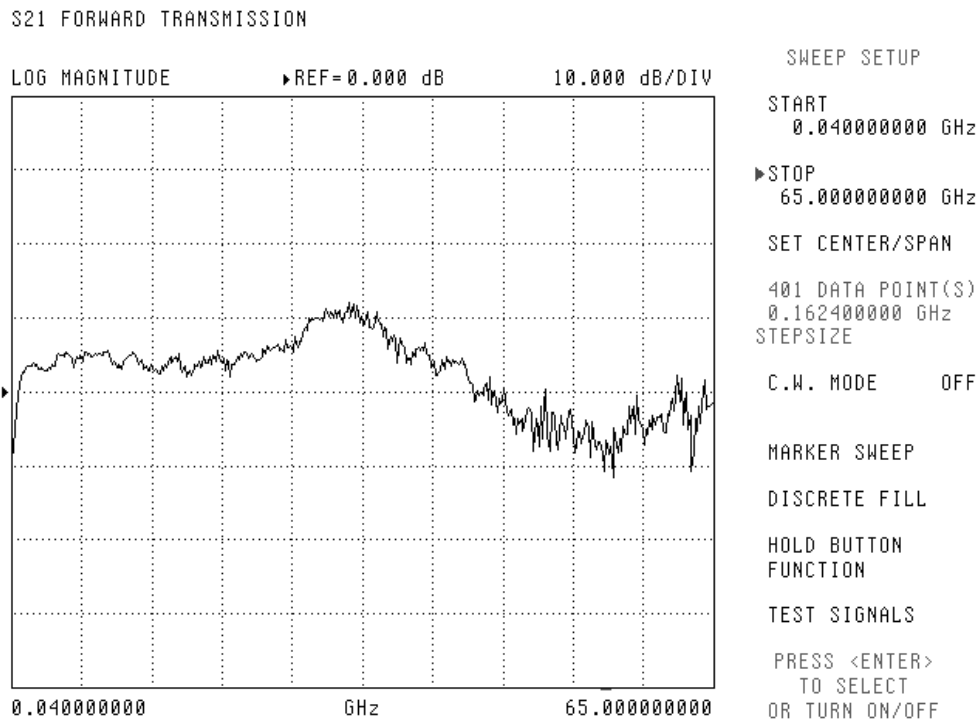

Figure 15-6. S21 or S12 Forward Transmission
- Step 4.** View single channel S21 and S12 as described above, and verify that the traces are similar in appearance to Figure 15-6.